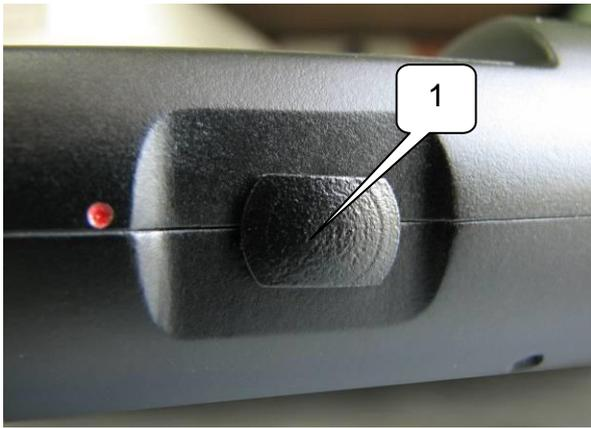

Fig. 5
**4.4.** On the side surface of the control panel (see 1 in Fig. 5) a slide-type power switch is placed. A slide position corresponding to «ON» is marked by a contrast point. The device operates only when a charged battery is connected to it. A battery is
screwed on the back side of the control panel. The appearance of a battery is shown in Fig.6. While a battery is being screwed on, the positive battery lead must not be short-circuited with a case (see 1 in Fig.5).
6.2. To start operation set the battery and turn «LORNET» on by the power switch placed on the control panel (Fig.5). The 2nd and 3rd indicators on the control panel will light up, indicating that the detector has been powered on.